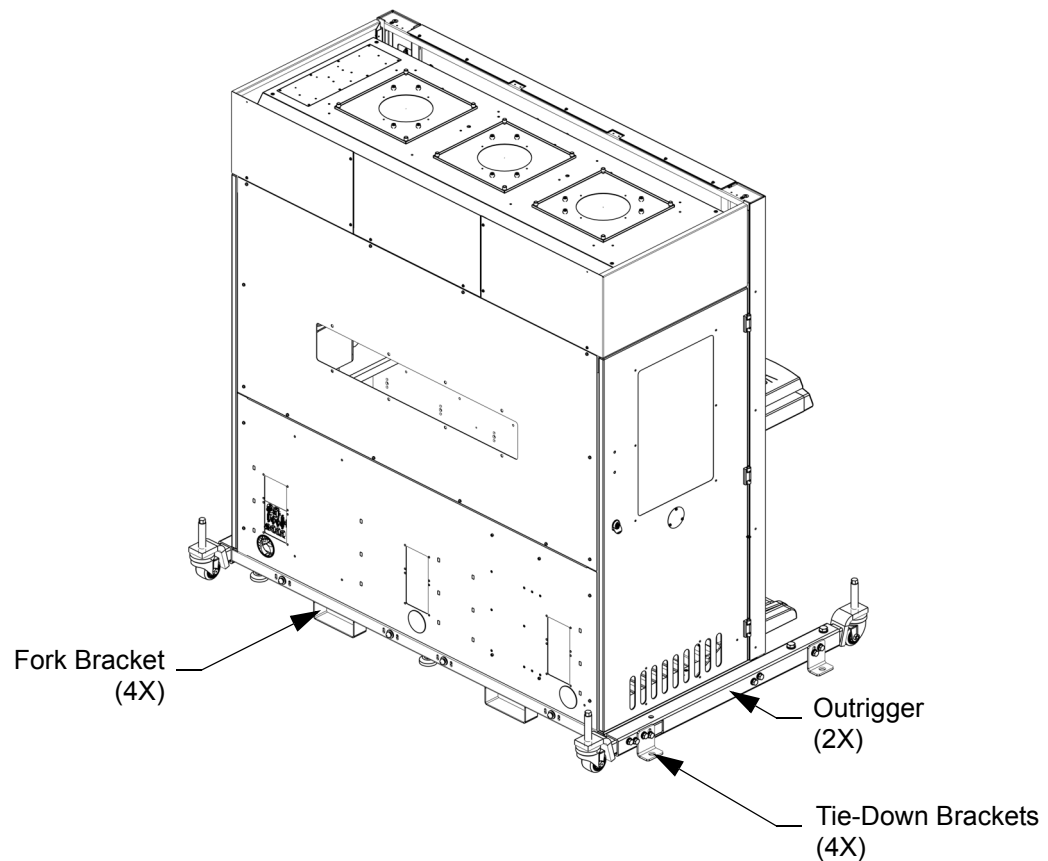

Figure 9-1: Shipping Tie-Downs
10. Attach the two outriggers to the sides of the Jet system frame as shown in Figure 9-1.
11. Attach the four tie-down brackets to the outriggers as shown in Figure 9-1.